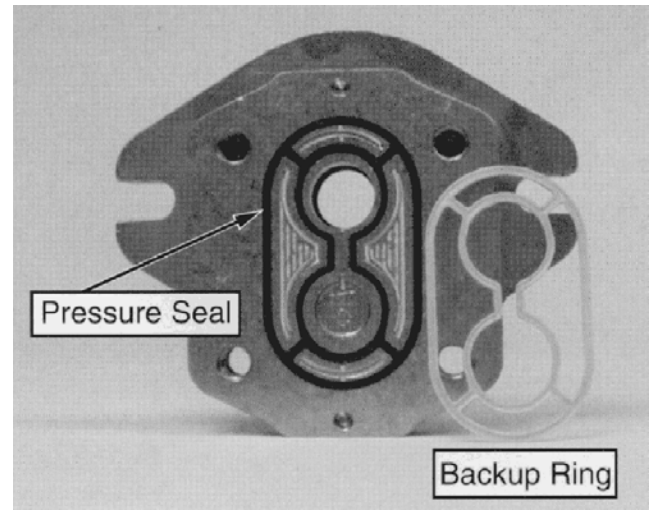

Figure 71
9. Carefully remove and discard o-rings, pressure seals, and back-up rings (Fig. 71) from motor. Do not cause any damage to the machined grooves during the removal process.